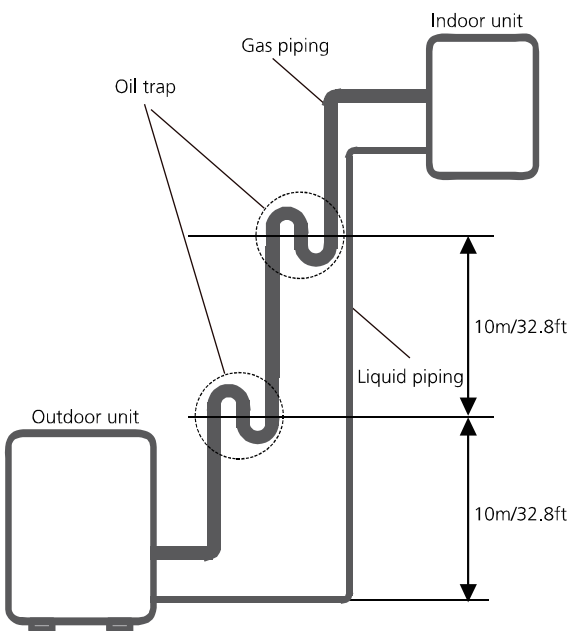

Fig. 6.1
-If oil flows back into the outdoor unit's compressor, this might cause liquid compression or deterioration of oil return. Oil traps in the rising gas piping can prevent this. An oil trap should be installed every 10m (32.8ft) of vertical suction line riser. (See Fig. 6.1)